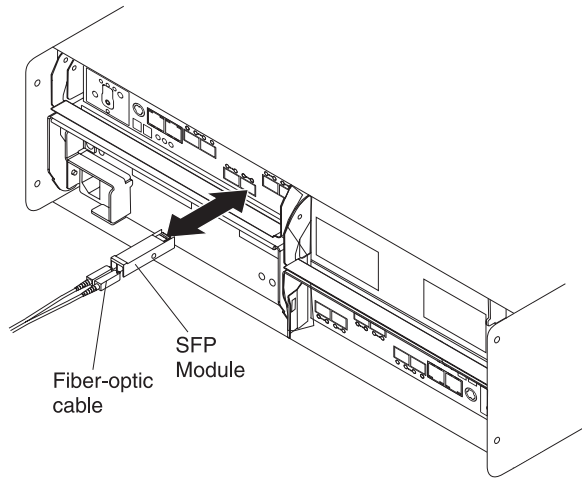

Figure 26. Installing an SFP module and LC-LC cable in a supported DS3950 storage subsystem
2. Connect an LC-LC fibre-optic cable into the SFP module, as shown in Figure 26.
Note: Figure 26 shows a DS3950 Storage Subsystem. The DS3950 Storage Subsystem is shown for illustrative purposes only.